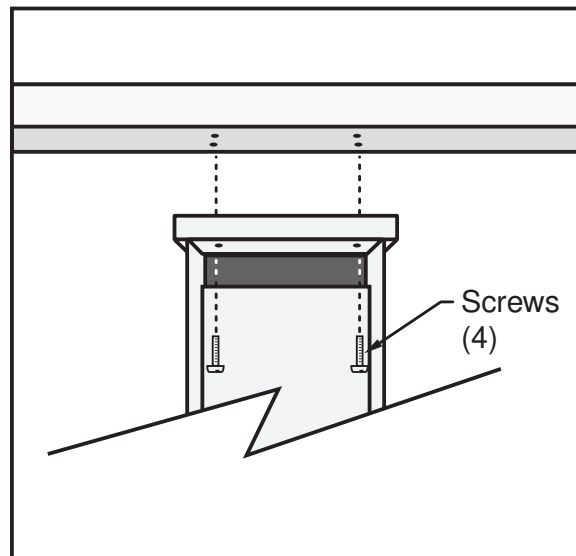

FIGURE 6-7. T107 crossarm mounting
The crossarm needs to be installed after the enclosure is mounted on the pole. You may need to temporarily remove the communications option. Mount the crossarm as shown in FIGURE 6-7 (p. 21) without the wind sensor attached.
4. Attach the arm to the enclosure by inserting and tightening four Phillips head screws (FIGURE 6-7 (p. 21)).